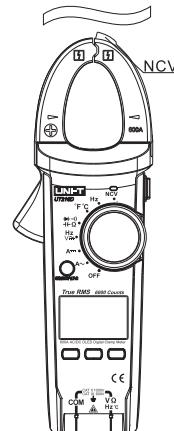

Fig. 12
**11. Measurement of induced voltage (shown as Fig. 12)****(1) Set capacitance measuring function gear**